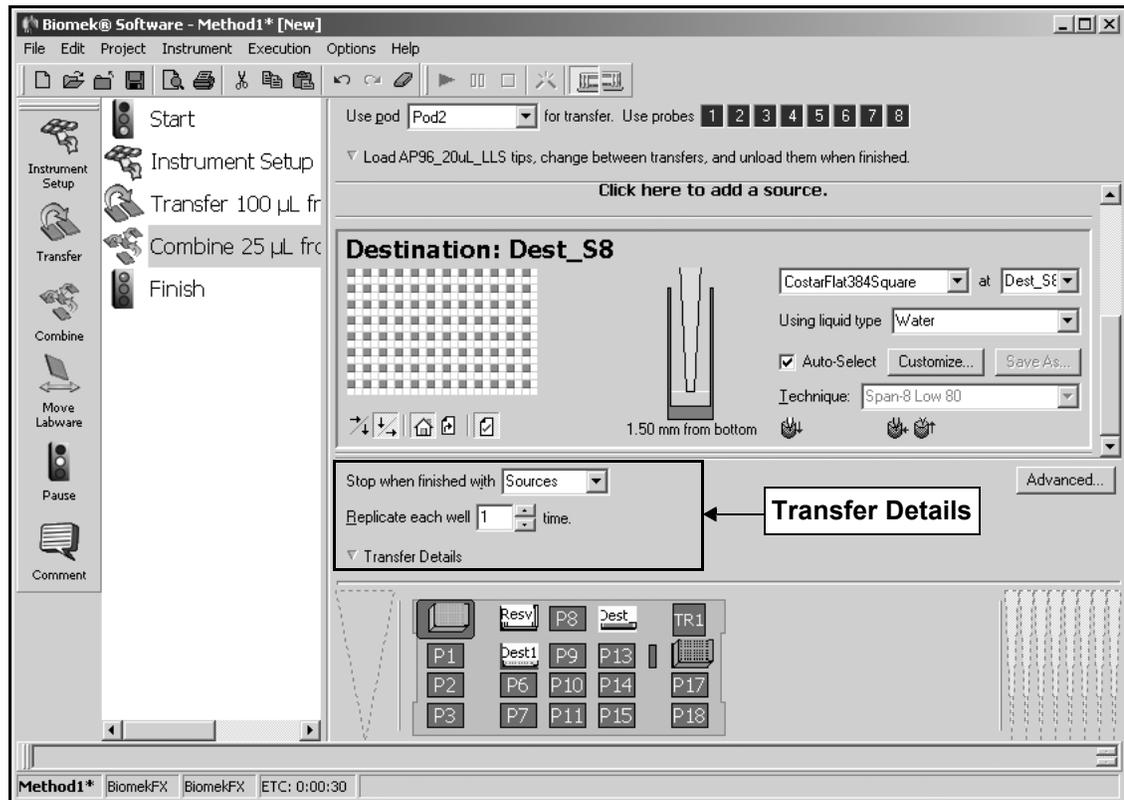

Figure 2-15. Combine step with destination labware configured
6. Choose **Zoom Out** to return to the Combine step configuration. The destination labware is now configured, and the editor looks like Figure 2-15.